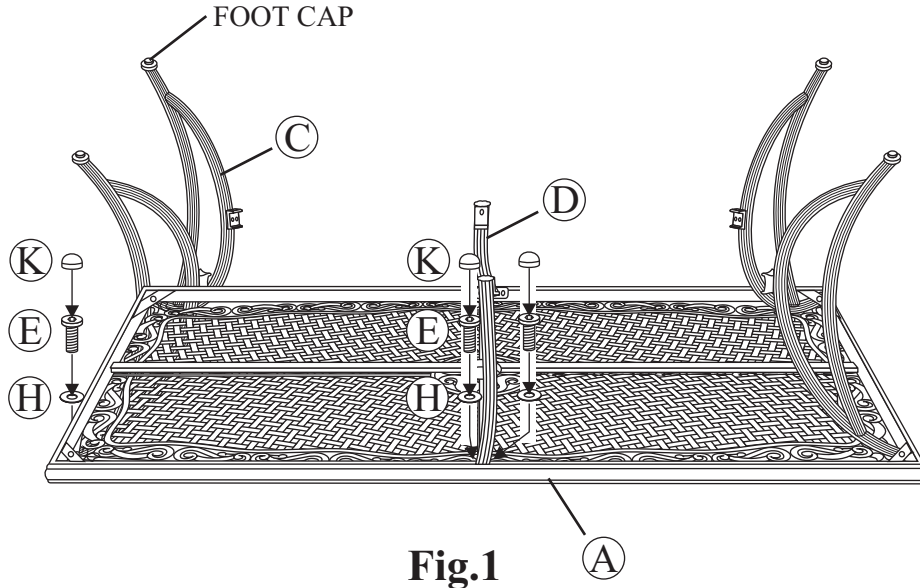

Fig.1
- 1 Place the table top upside down on a flat, non-abrasive surface. Attach table leg to table top by using a 1/4"x20 mm bolt and a washer as shown in **Fig.1**. Place the leg beneath the table rim corner bracket. Guide the bolt through the hole in the table rim and into the pre-drilled hole in the table leg. **Hand tighten only**. Repeat for the other three legs. Attach the topside support to the table top by using two 1/4"x20 mm bolts and washers as shown in **Fig.1**. **Hand tighten only**. Repeat for the opposite side.